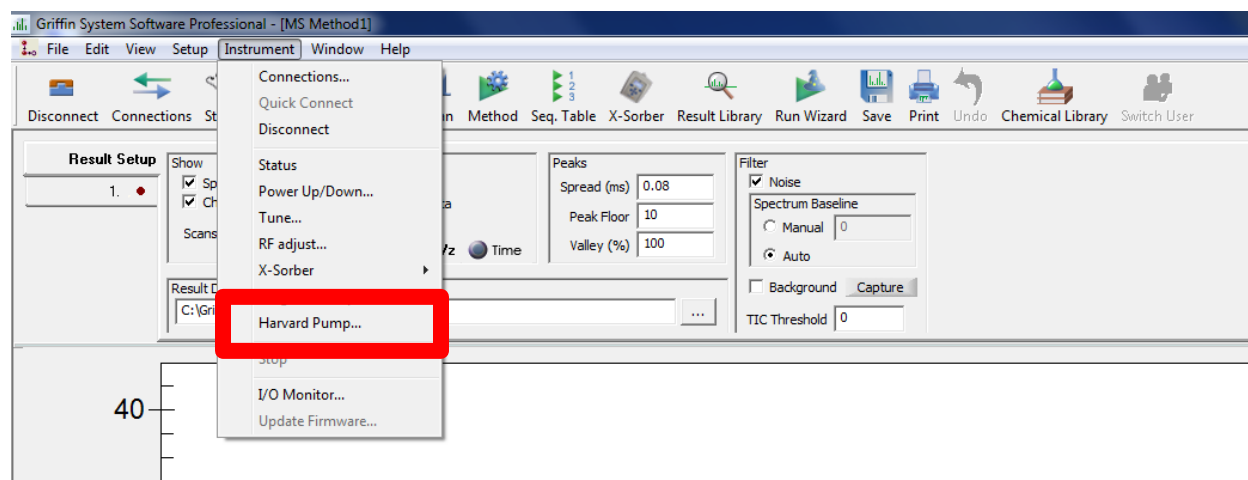

Figure 4.10 – Accessing the Harvard Pump
10. If the solvent syringe is being utilized (ESI/DESI), it may be necessary to purge the solvent transfer line to achieve a stable spray. To do this, click “Instrument” on the top menu bar of the screen and choose “Harvard Pump” (Figure 4.10).